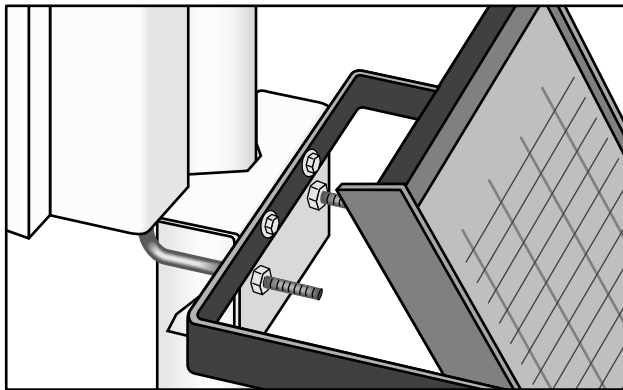

FIGURE 3.1-2. Solar Panel Mounting
- a) Mount the solar panel to the tower using the mounting brackets as shown in Figure 3.1-2. Mount the solar panel to the tower so it faces south (northern hemisphere). Position it as high off the ground as practical, ensuring it cannot interfere with air flow or sunlight around the sensors. The solar panel should be oriented to receive maximum insolation over the course of the year. Suggested tilt angles (referenced to the horizontal plane) are listed below.